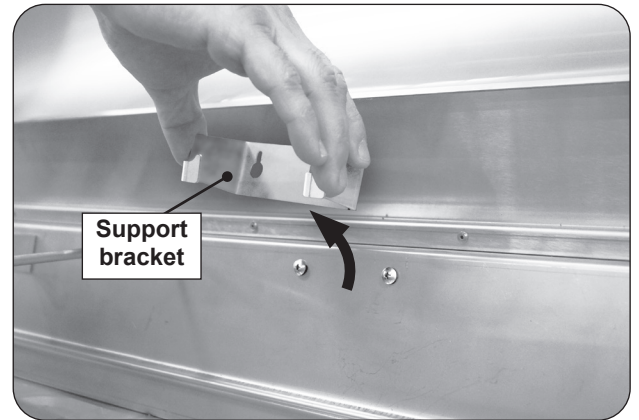

Fig. 29-1 Remove element support bracket
2. Locate the rear heating element support bracket and slightly loosen the two screws. Detach and remove the bracket by sliding it upward. See Fig. 29-1.